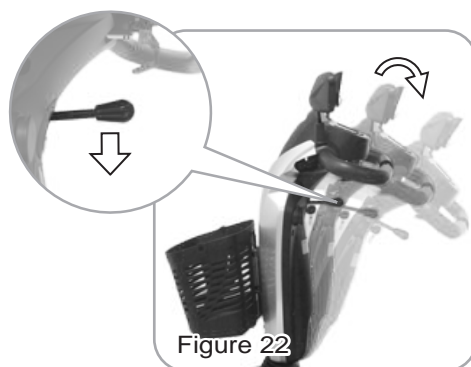

Figure 22
- Pull the tiller adjustment downwards to adjust tiller's angle and release to lock at a desired comfortable position. (Figure 22)